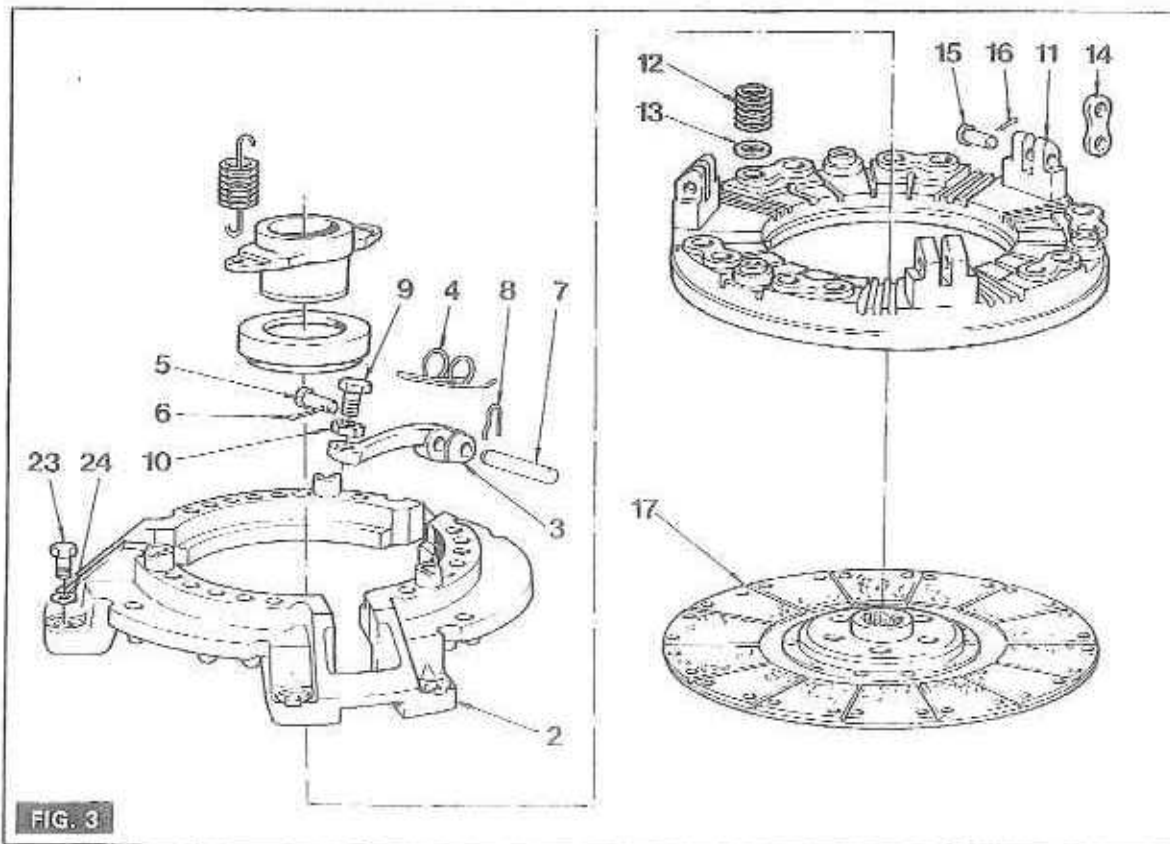
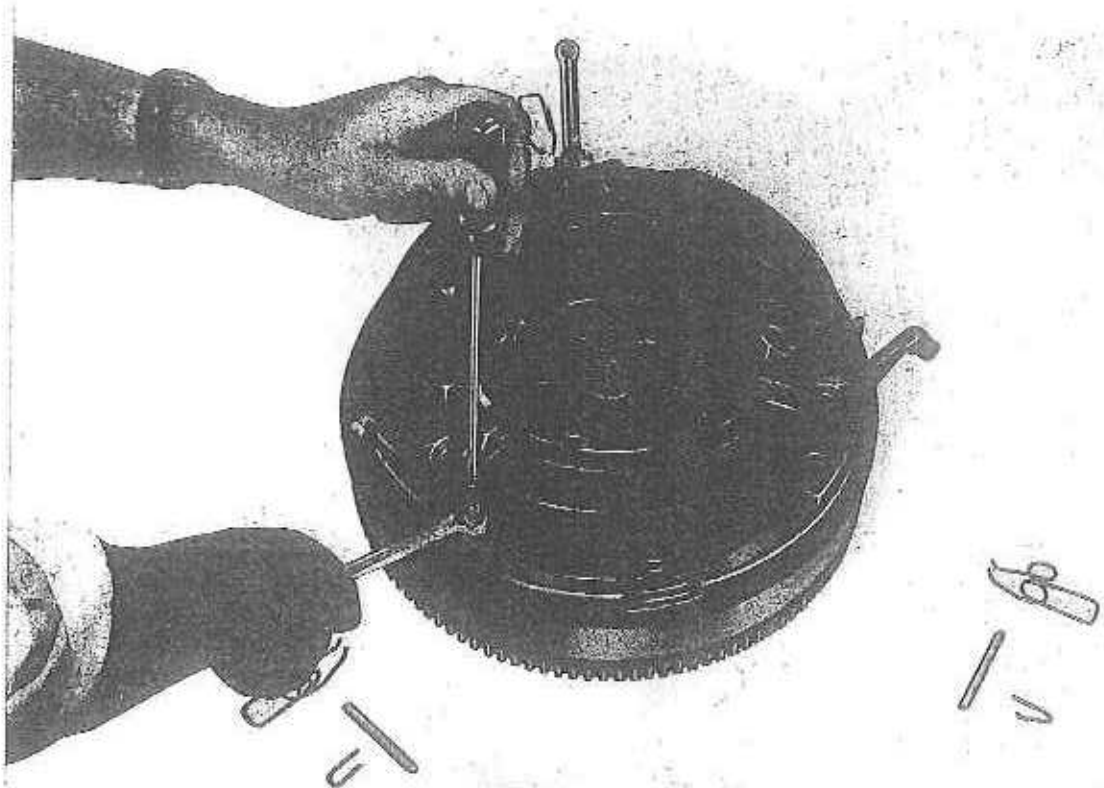

FIG. 3
FIG. 4
3. (Fig. 3) Mark the cover plate (2) and pressure plate (11) so that they can be reassembled in the same relative position.
4. Fit the friction disc (17) and the clutch assembly to the flywheel using three setscrews 5/16" U.N.C. by 3 1/4" (82.55 mm) equispaced in three of the six holes in which the clutch to flywheel bolts were fitted.
6. Remove the clips (8) which secure the release lever pivot pins (7) and remove the pivot pins.
7. Remove the release lever securing springs (4).
9. (Fig. 4) Progressively slacken the three 5/16" U.N.C. locknuts two flats at a time until all spring pressure has been released. Remove the three slave setscrews.
10. (Fig. 3) Remove the following components. Cover plate (2), twelve coil springs (12), twelve washers (13), three release levers (3), pressure plate (11) and drive plate (17).